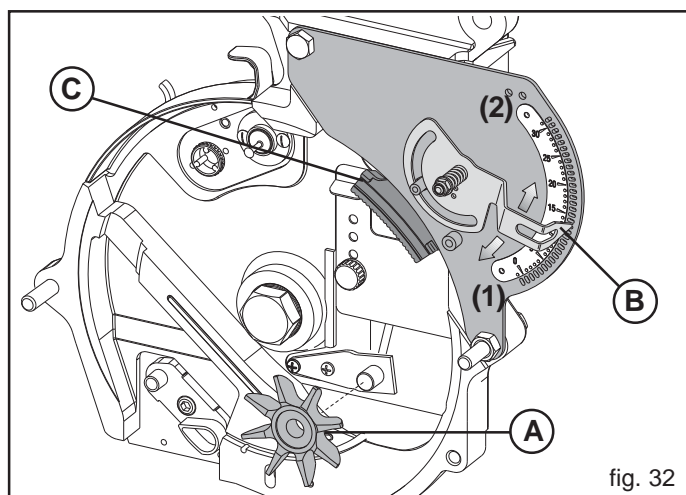

fig. 32
The Manufacturer provides a (disassembled) seed agitator for each distributor, as part of the standard supply (A, Fig. 32).
When the indicator (B, Fig. 32) is moved, it commands a cursor (C, Fig. 32), which slightly touches the plate near the holes, causing the excess seeds to fall. The selector is adjusted at each seed and plate change, towards the lower numbers for small seeds (1, Fig. 32) and vice versa for big seeds (2).
IMPORTANT: The selector does not adjust the air flow in the distributor; replace the cursor (C, Fig. 32) when the seeding configuration is changed (single, double or triple row seeding).